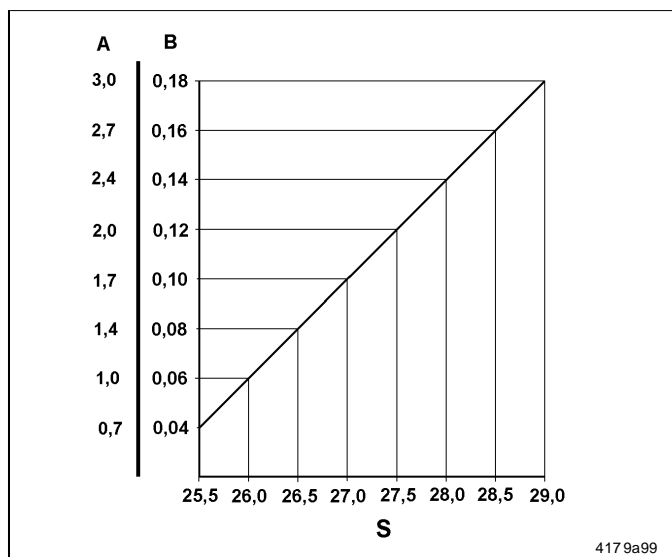

Fig. 2-2 Lubrication output diagram
- Determine adjusting measure S (including deviation) for the required output volume by means of the output diagram (fig. 2-2).